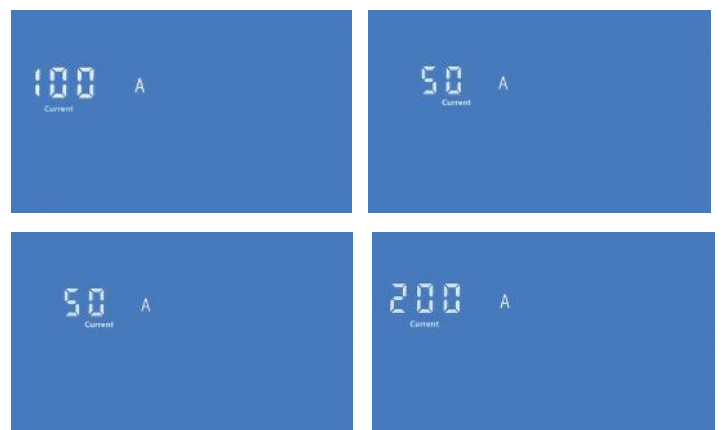

Figure 8: Current range choosing interface
Step 2: Longer press of the button until the LCD shows the interface of Figure 8, then release the button, short press the button again to switch the current range. This meter provides four current ranges, factory default is 100A, choose the corresponding range according to the shunt.